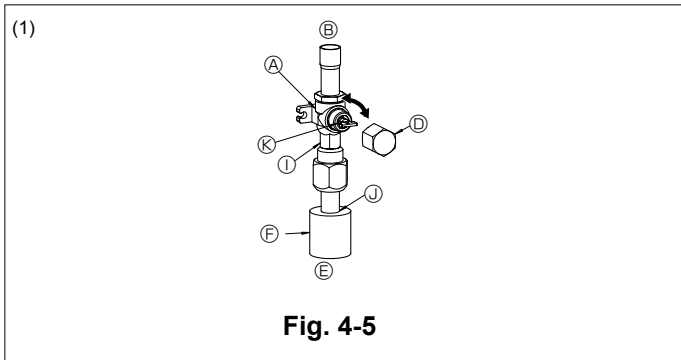

Fig. 4-5
- Make sure the stop valves (A) (B) are closed and do not open them.
- Add pressure to the refrigerant lines through the service port (C) of the liquid stop valve (D).
- If the pressure decreases in steps (2) or (3), there is a gas leak. Look for the source of the gas leak.
- Gas side of A24-A42 (Fig. 4-5)